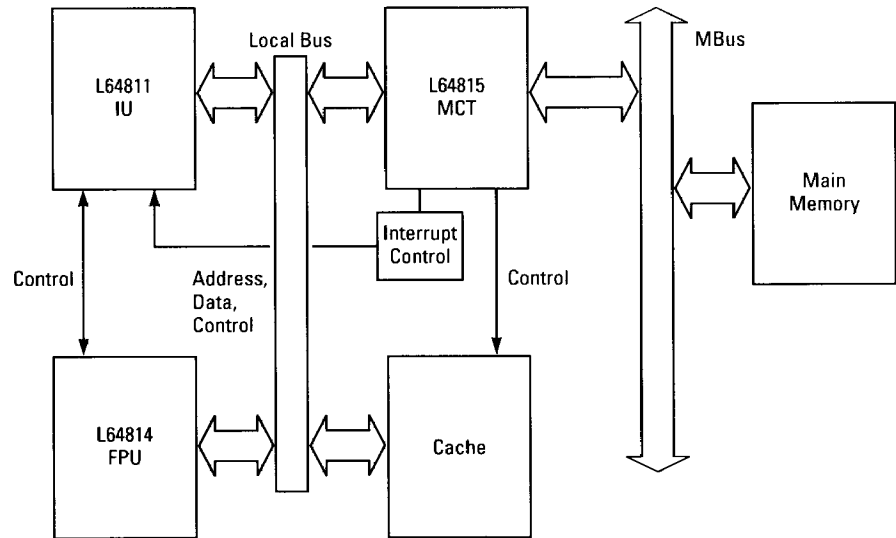

Figure 1. FPU-IU-MCT System Interconnect Diagram
Figure 1 shows the FPU, the L64811 Integer Unit (IU), and the L64815 Memory Management,